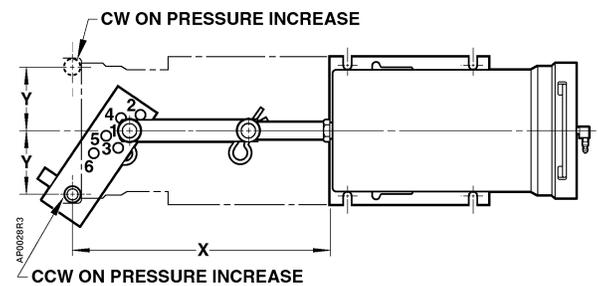

Figure 5. Fixed Mounted Actuator Assembly.
2. Place front of actuator on "X" dimension line so that the actuator shaft faces damper shaft. Place center line of actuator over "Y" dimension line (see Figure 5).